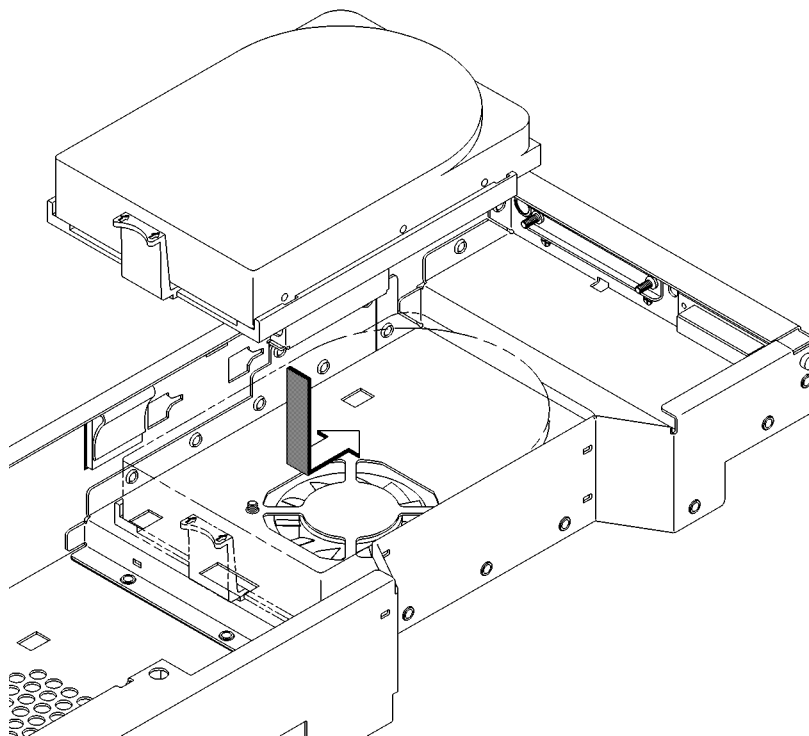

Figure 38
- 1 Align the four feet on the bottom of the drive carrier with the square holes in the storage tray, as shown in Figure 38.
- 4 Push the drive toward the rear of the tray until the locking tab on the drive carrier snaps into place, as shown in Figure 38.